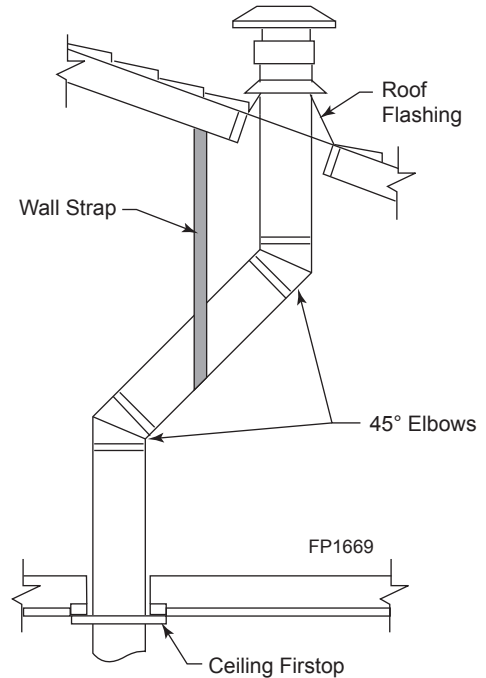

Figure 31 -
1. Determine the route your vertical venting will take. If ceiling joist, roof rafters or other framing will obstruct the venting system, consider an offset. Refer to Figure 31 to avoid cutting load bearing members.